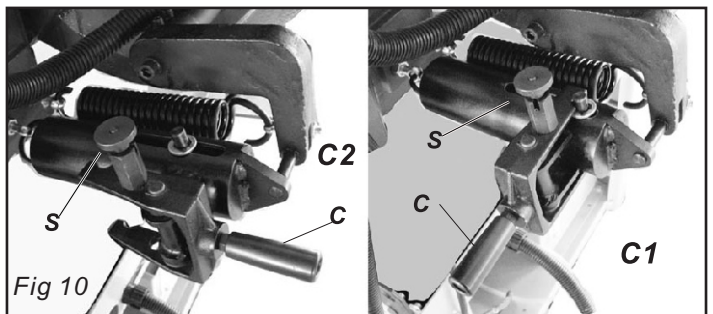

Fig 10
Move the handle to the auto position (**C2**,fig10).Lift the spring knob (**S**) and secure its pin into its slot.
Lift the spring knob (S) to release the pin from its slot. This will free the fork handle(C). Move the handle to the manual position (C1, fig10). Lift the spring knob(S) and secure its pin into its slot.